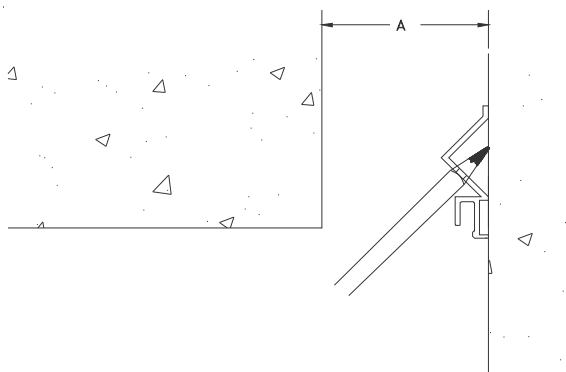

Figure 4
**STEP 4.** Select the corner wall base member, and place it into its installed position in the joint. Ensure that the base member is flush, level, straight, and properly aligned. Using the base member as a template, mark the locations for the anchors on the wall (see Figure 4). Remove the base member from its installed position, and drill the anchor holes into the wall at the marked locations. For concrete walls, drill the anchor holes 1/4" deeper than the length of the anchors. Clean away all dust and debris from the wall.